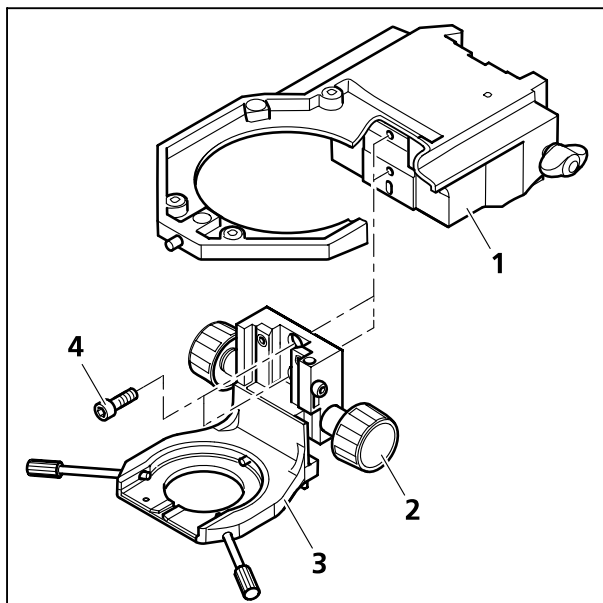

Fig. 3-18 Mounting the condenser carrier
- Adjust the guide of the condenser carrier (Fig. 3-18/3) with the gear knob (Fig. 3-18/2) until both screws (Fig. 3-18/4) become accessible.
- Mount the condenser carrier on the stage carrier (Fig. 3-18/1), slide it firmly and straight up to the upper stop and tighten both screws.